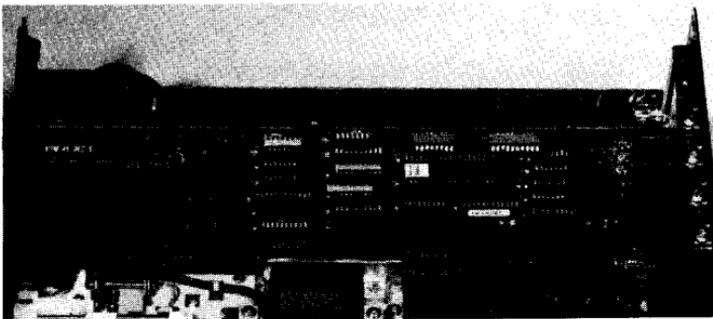

Figure 7
- 3) Insert the **TWINPORT** board into the mating motherboard socket. Rush the board fiily into place (Figure 7).